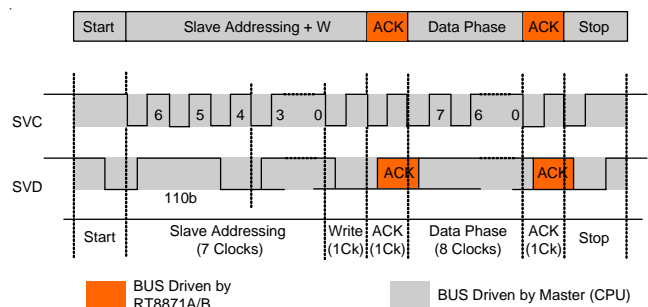

Figure 1. SVI Communication-Send Byte
slave receives the SVI transactions and acts accordingly. SVI wire protocol is based on fast-mode I²C as shown in Figure 1. SVI interface also considers two additional signals needed to manage the system start-up. These signals are EN and PWROK. The device asserts a PGOOD signal if the output voltages are in regulation.
The Set VID Command is defined as the command sequence that the CPU issues on the SVI bus to modify the voltage level of the Core section and NB section, as shown is Figure 1. During a Set VID Command, the processor sends the start (Start) sequence followed by the address of the Section which the Set VID Command applies. The processor then sends the write (WRITE) bit. After the write bit, the Voltage Regulator (VR) sends the acknowledge (ACK) bit. The processor then sends the VID bits code during the data phase. The VR sends the acknowledge (ACK) bit after the data phase. Finally, the processor sends the stop (Stop) sequence. After the VR has detected the stop, it performs an On-the-Fly VID transition for the addressed section(s). Refer to Table 3 for the details of SVI send byte.